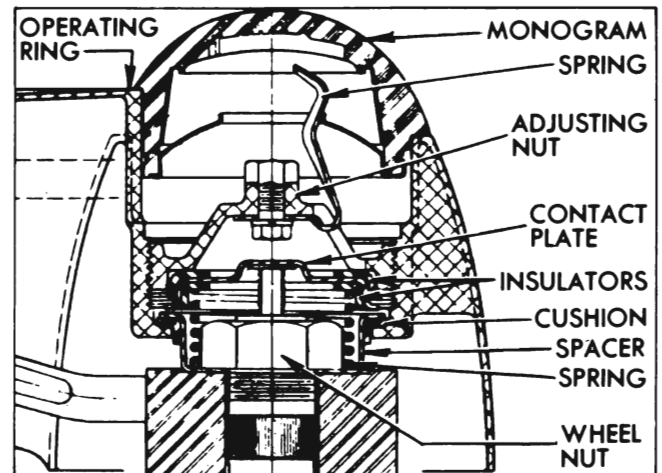

Figure 10-69—Horn Operating Ring Installation
nut, (3) remove the contact plate and spring, with insulators, (4) remove steering wheel nut, (5) remove operating ring with cushion and contact spacer. See figure 10-69.